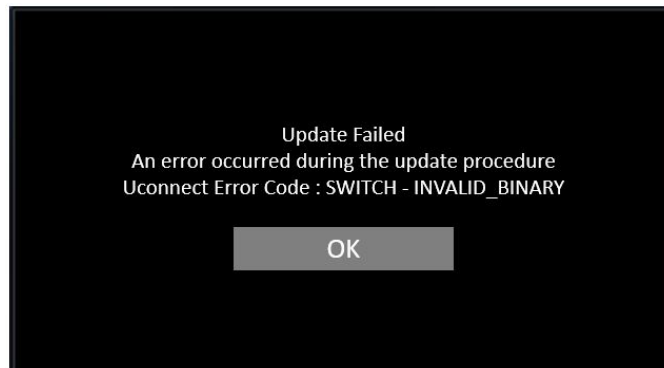

Fig. 4
18. If the radio displays an error pop up " SWITCH-INVALID_BINARY" after successful radio update, ignore this error message and press "OK" to continue Fig. 4.